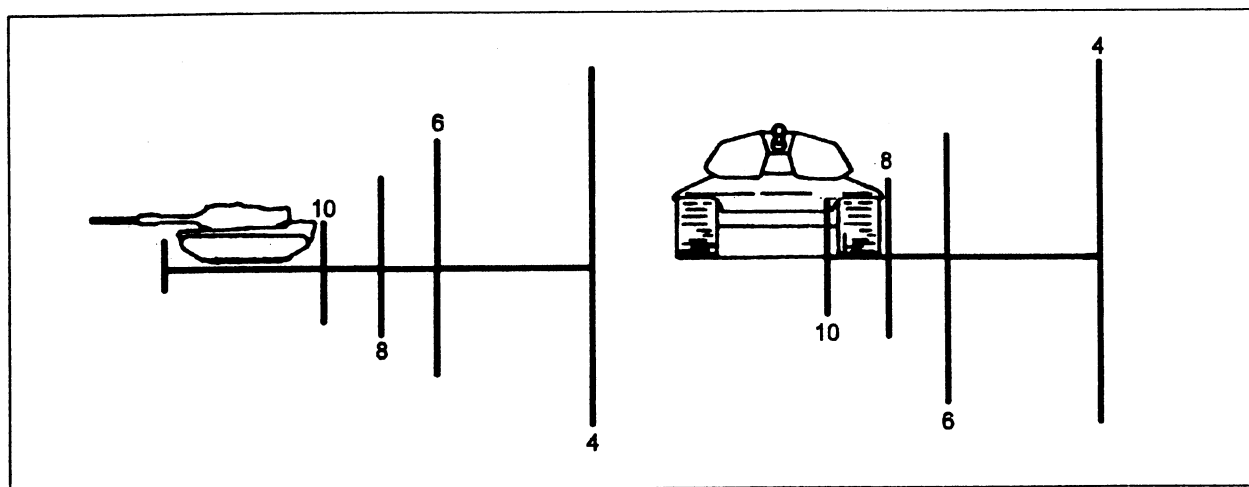

Fig 2-12. Range estimates based on horizontal distance.
- (b) Range estimates derived from horizontal distance are based on a horizontal length of 20 feet--the average length of most tanks and trucks. Study figure 2-12. Notice that lengths of horizontal distance are measured from the leftmost index line to the right. Note that if the length of the object is closer to 10 feet in length or width, you can still use it to base an estimate. Simply take half the range indicated.